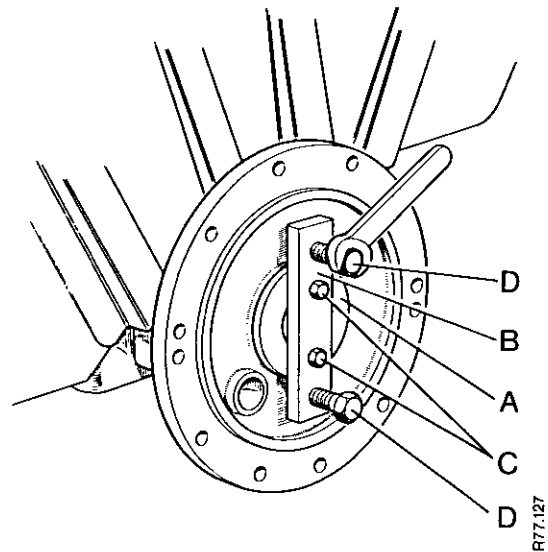

FIGURE 124. REMOVING OIL SEAL HOUSING FROM AXLE CASE
1. Use the Service Tool K900208 shown in Figure 124 to remove the seal housing.